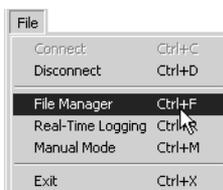

Figure 4-9. File->Manager
3. Click **File->File Manager** (Figure 4-9).